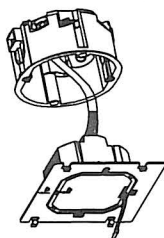

Fig 3
Step 3. Connect power supply, load and external (floor) sensor into the appropriate terminals if there is external sensor. (see "Wiring your thermostat" for details and Fig 3).